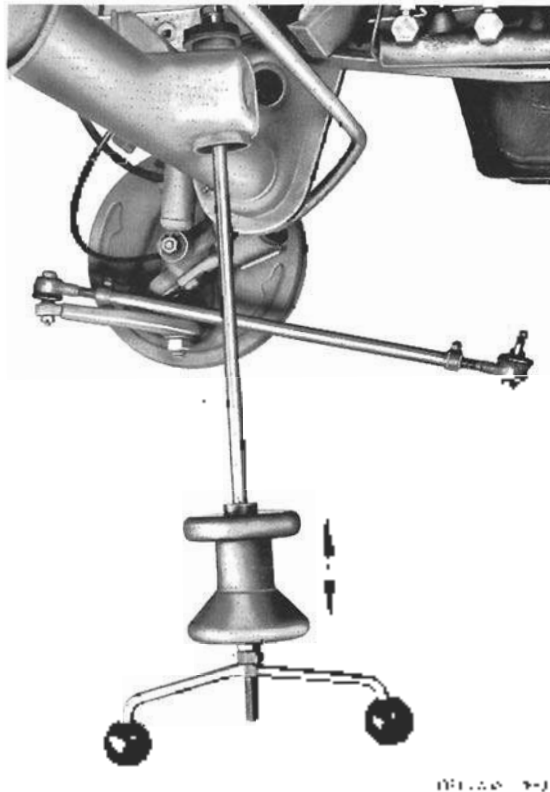

Fig. 9-10. Bushing being driven out. Move the hammer as indicated by the double arrow.
1. Remove the grease nipple. Then, using a slide hammer and appropriate extracting tools, drive the old bushings out downward (Fig. 9-10).
2. Using the tools shown in Fig. 9-10, drive in the new lower bushing from above until it is flush with the bottom of the mounting.